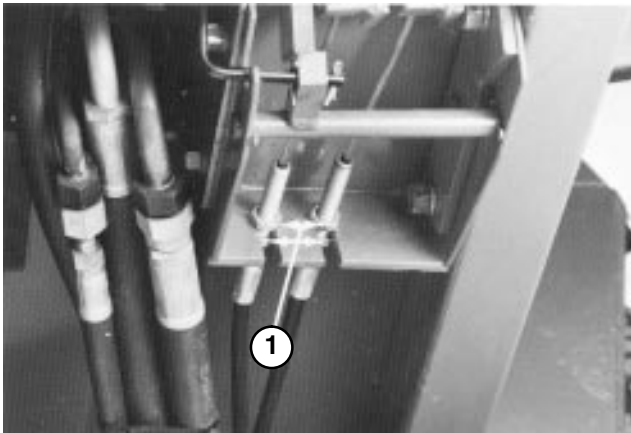

Figure 61
1. To reduce free travel of turn pedals—tighten the brakes—loosen front nut on threaded end of brake cable (Fig. 61). Then tighten rear nut to move cable backward until turn pedals have 1/2 to 1 inch (13 to 25 mm) of free travel. Tighten front nut after brakes are adjusted correctly.